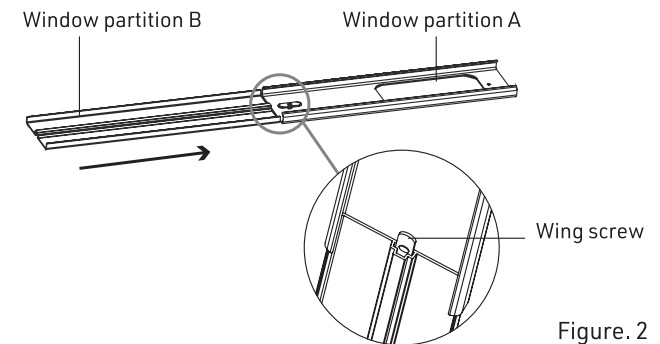

Figure. 2
- 3.) As shown in Figure 2, insert the window partition B into the window partition A from the side (the wing screw head needs to be stuck into the slot of the window partition B), and adjust the assembly length as required;